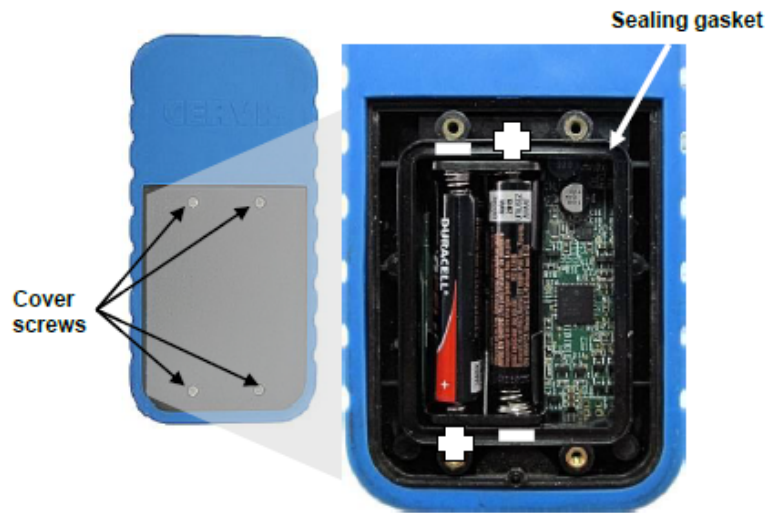

Figure 10. HH2S-9XW10 Battery Installation
2. Install two fresh size AAA batteries. Be sure to position batteries as shown in Figure 10.